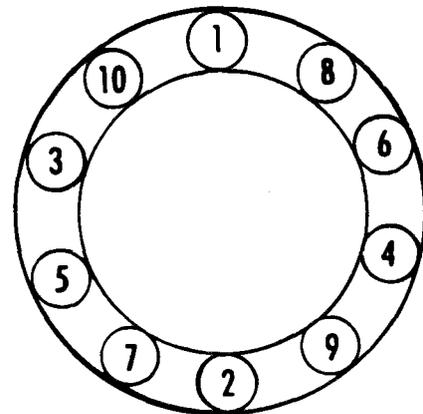

Figure 12-2
2. Torque 10 lug nuts (1) to 450 to 500 lb-ft (610 to 678 N•m). Use sequence shown in Figure 12-2. Recheck after 8 hours of operation.